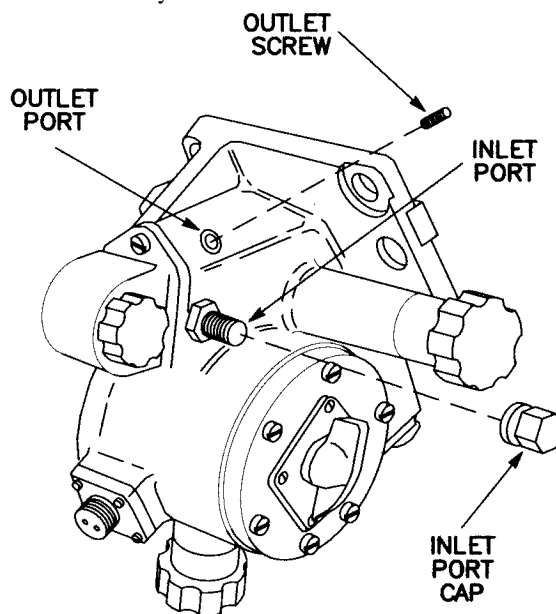

Figure 3-52 8635466 Infinity Sight
b. 8635466 Infinity Sight (fig. 3-52).